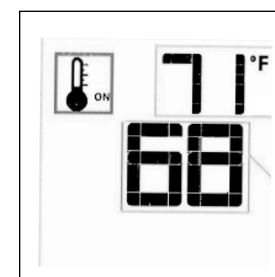

Fig. 15.14. Smart Set Temp.
- To adjust the temperature, press the Up or Down Arrow Keys until the desired Set Temperature is displayed. Fig. 15.14.